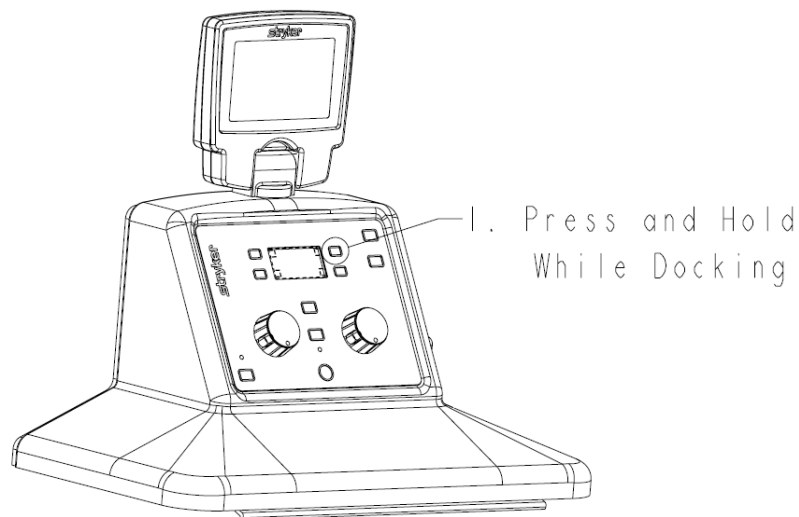

Figure 1: Accessing Menu While Docked
- a. To access the System Settings Menu while docked, hold down the display button in the upper-right hand corner and dock the unit. (See figure 1)